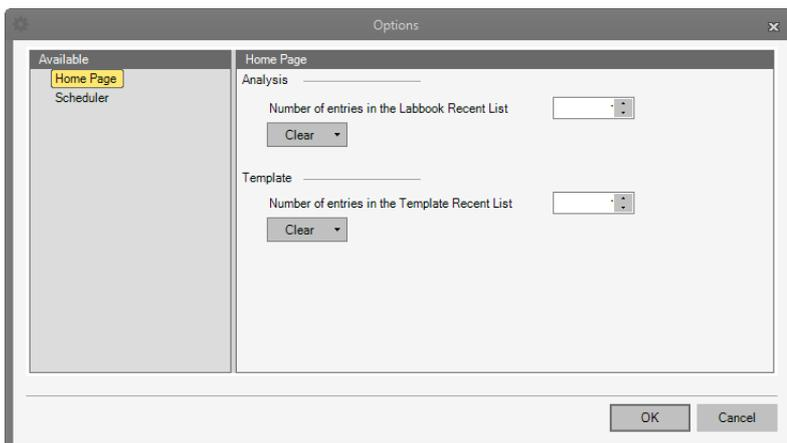

Figure 4-83. Home Page settings in Options dialog of Help page
2. Under **Available** on the left pane, select **Home Page**, see Figure 4-83.